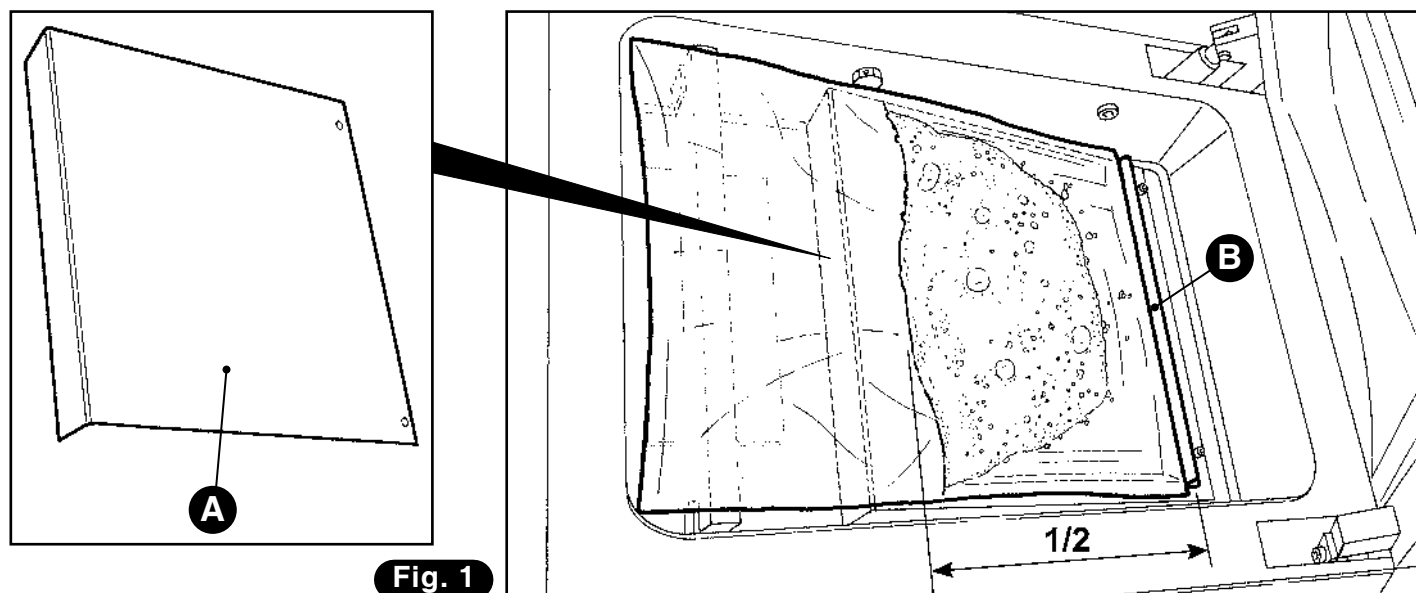

Fig. 1
- 3) Insert the bag containing the liquid to be packed inside the chamber, making sure that it is only half-filled (1/2) (**Fig. 1**). Place it centered on the sealing bar, so that the open end projects by about 20mm beyond the bar.